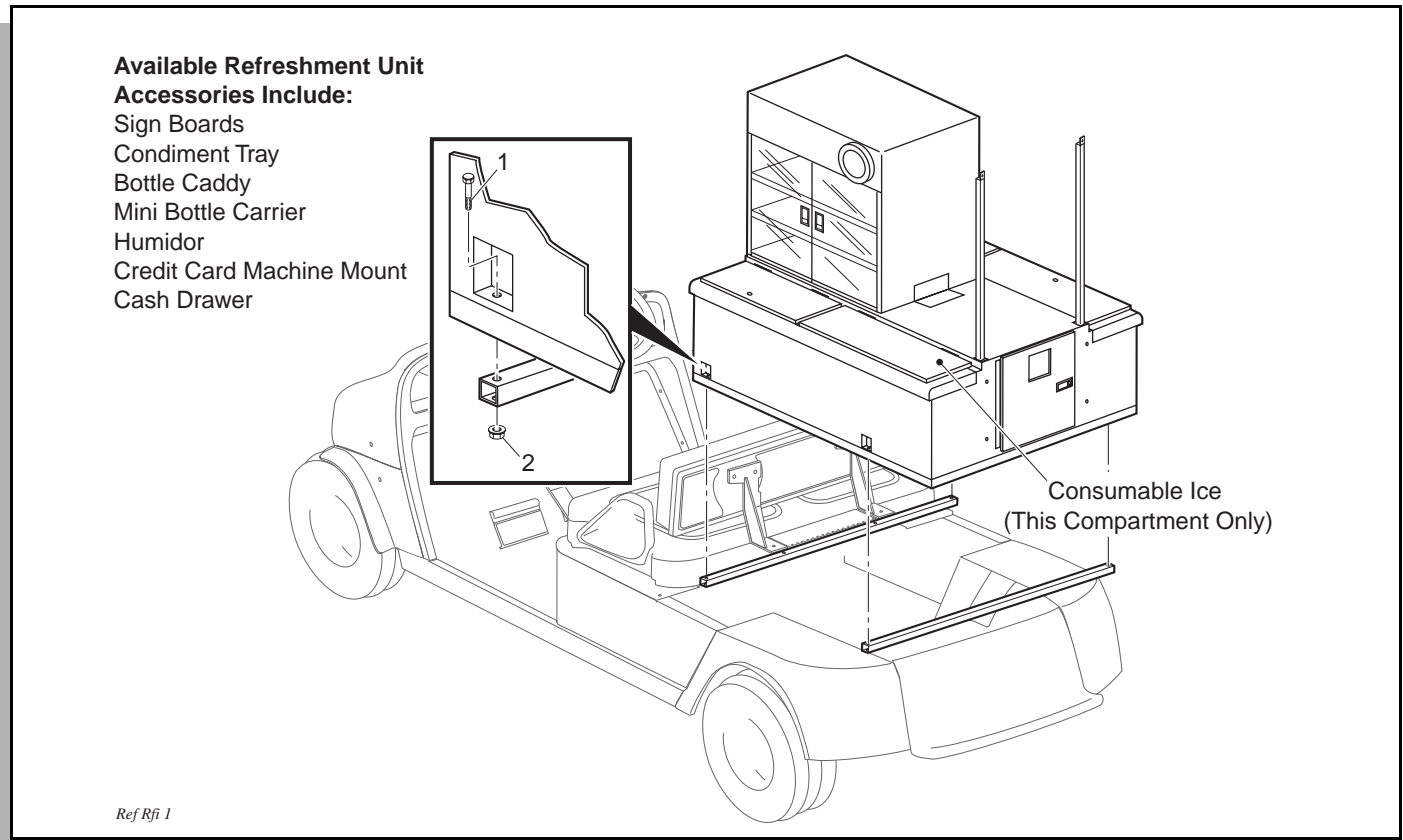

Fig. 1 Mounting the Refreshment Unit
The vending unit is equipped with two beverage compartments, a cold storage compartment, a consumable ice compartment, a food display cabinet, two cup dispensers and a trash bin. Available accessories are listed in illustration (Ref. Fig. 1 on page 2).
Orient vending unit so that door on unit will be facing the rear of the vehicle when unit is placed on the mounting frame (Ref. Fig. 1 on page 2). Using a forklift, lift the refreshment unit and pallet level with the bed of refreshment vehicle. Lift the refreshment unit off of the pallet and carefully place it onto the mounting frame on vehicle. Align the four mounting holes on refreshment unit with corresponding holes on vehicle mounting frame. Secure unit to frame with four 5/16 - 18 X 1 1/4" bolts (item 1), eight 5/16" flat washers (item 2) and four 5/16 - 18 lock nuts (item 3). Tighten hardware firmly.
Consumable Ice Compartment - The consumable ice compartment, located in the rear driver side of the beverage container is to be used for consumable ice only (Ref. Fig. 1 on page 2). This compartment is equipped with its own drain per FDA requirements and should not be used for canned goods or other products.